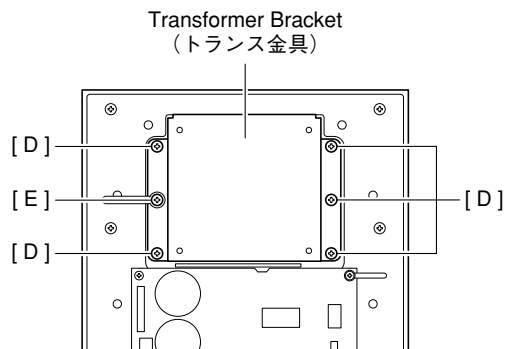

Fig. 5(図5)
5-3 Remove the five (5) screws marked [D] and screw marked [E]. The transformer bracket can then be removed. (Fig. 5)
5-3 [D]のネジ5本と[E]のネジを外し、トランス金具を外します。(図5)